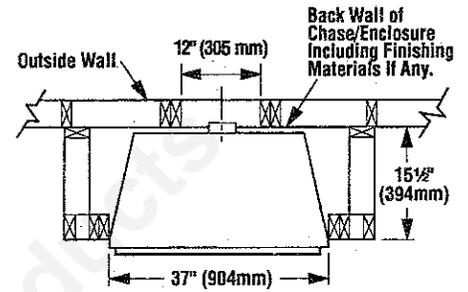

Figure 4
**Step 1.** Frame appliance enclosure as illustrated in Figures 4 through 6.